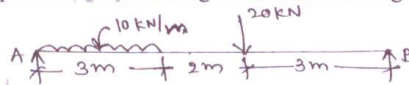

Fig.Q5(b)
- b. Find the reactions of support for the following beam shown in Fig.Q5(b) (10 Marks)